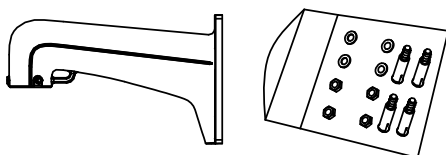

Figure 2-3 Wall Mounting Bracket
- The bracket in Figure 2-3 is the recommended bracket for this series of speed dome.
- 1) Get the bracket and screws from the packing box as shown in Figure 2-3.